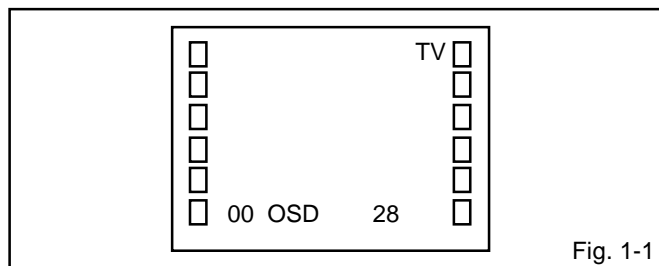

Fig. 1-1
Press the VOL. DOWN button on the set and the Channel button **(9)** on the remote control for more than 2 seconds to appear the adjustment mode on the screen as shown in **Fig. 1-1**.
3. Activate the adjustment mode display of **Fig. 1-1** and press the channel button **(01)** on the remote control to select "CUT OFF".
4. Activate the adjustment mode display of **Fig. 1-1** and press the channel button **(10)** on the remote control to select "R. BIAS".
3. Activate the adjustment mode display of **Fig. 1-1** and press the channel button **(05)** on the remote control to select "H. PHAS".
3. Activate the adjustment mode display of **Fig. 1-1** and press the channel button **(07)** on the remote control to select "V. SFT".
3. Activate the adjustment mode display of **Fig. 1-1** and press the channel button **(06)** on the remote control to select "V. SIZE".
3. Activate the adjustment mode display of **Fig. 1-1** and press the channel button **(13)** on the remote control to select "BRI.CENT".
3. Activate the adjustment mode display of **Fig. 1-1** and press the channel button **(22)** on the remote control to select "TINT".
6. Activate the adjustment mode display of **Fig. 1-1** and press the channel button **(19)** on the remote control to select "COL.CENT".
1. Activate the adjustment mode display of **Fig. 1-1** and press the channel button **(17)** on the remote control to select "CONT. MAX".
1. Activate the adjustment mode display of **Fig. 1-1**.